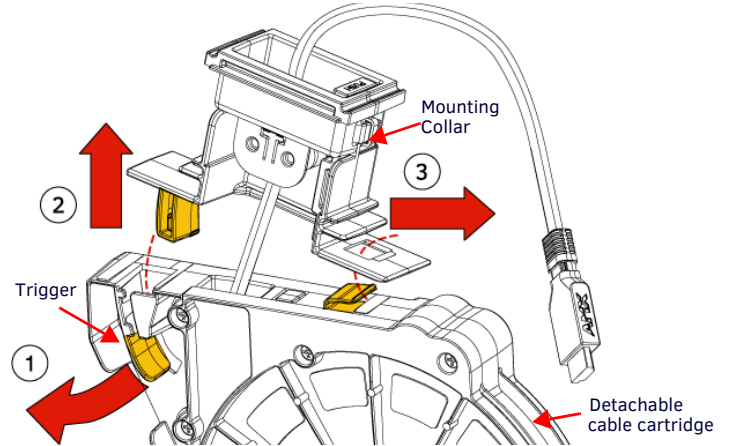

FIG. 4 HPX-AV102-DP-R MOUNTING COLLAR REMOVAL
6. Pull the cable cartridge trigger (FIG. 4) to release the mounting collar tongue.
- Push the cable cartridge trigger up onto the mounting collar tongue until it latches (opposite of FIG. 4).
- Detach the cable cartridge from the mounting collar using the trigger and slide method described in FIG. 4.